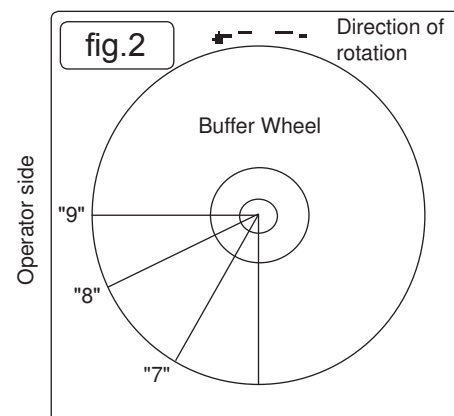

fig.2
- 5.2. Switch the polisher on and bring the workpiece slowly into contact with the wheel. The safest and best position for contact with the wheel is between "7-0-clock" and the "8-0-clock" positions in (fig.2). **DO NOT** contact the wheel outside the quadrant "6-0-clock" and "9-0-clock" positions.